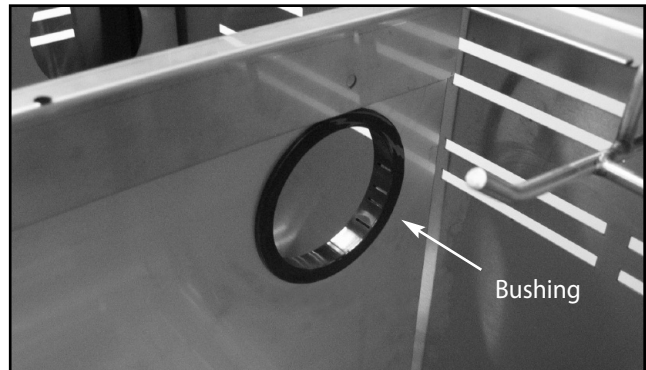

Fig. 30
2. Install the snap bushing in the center divider and the snap-lock clip in the back bottom of the cart into the hole provided, as shown in Fig. 30 and 31. Note the direction of installation.